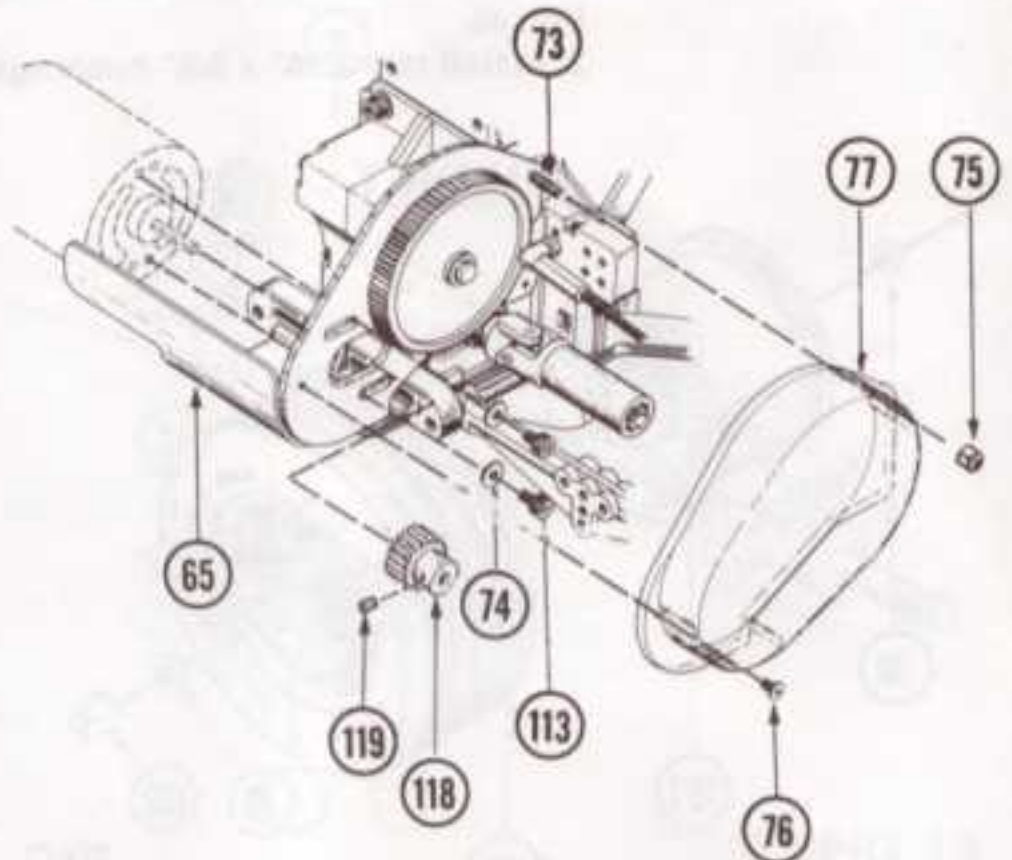

FIG. 48
1. Attach motor to motorplate (65) using 3mm x 8mm socket head screws (113) and two #4 washers (74).
2. Attach pinion gear (118) to motor shaft making sure set screw (119) is against flat in motor shaft. Fig. 48.
3. Locate trimmed gear cover (77) onto motor plate (65) and secure with 4-40 nylon nut (75) on top forward 4-40 x 1 3/4" socket head screw (73). Thread a 4-40 x 1/8" button head screw (76) in rear lower hole in motorplate. Fig. 48.